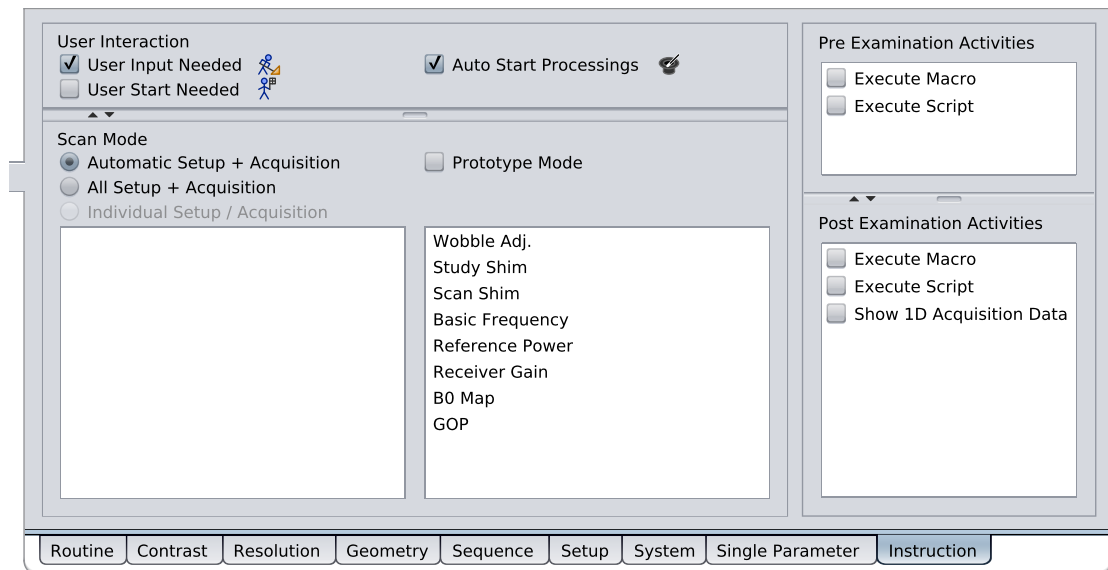

Figure 1.43: Instruction Card
- The Instruction tab (see [Figure 1.43 \[p. 60\]](#)) is raised.